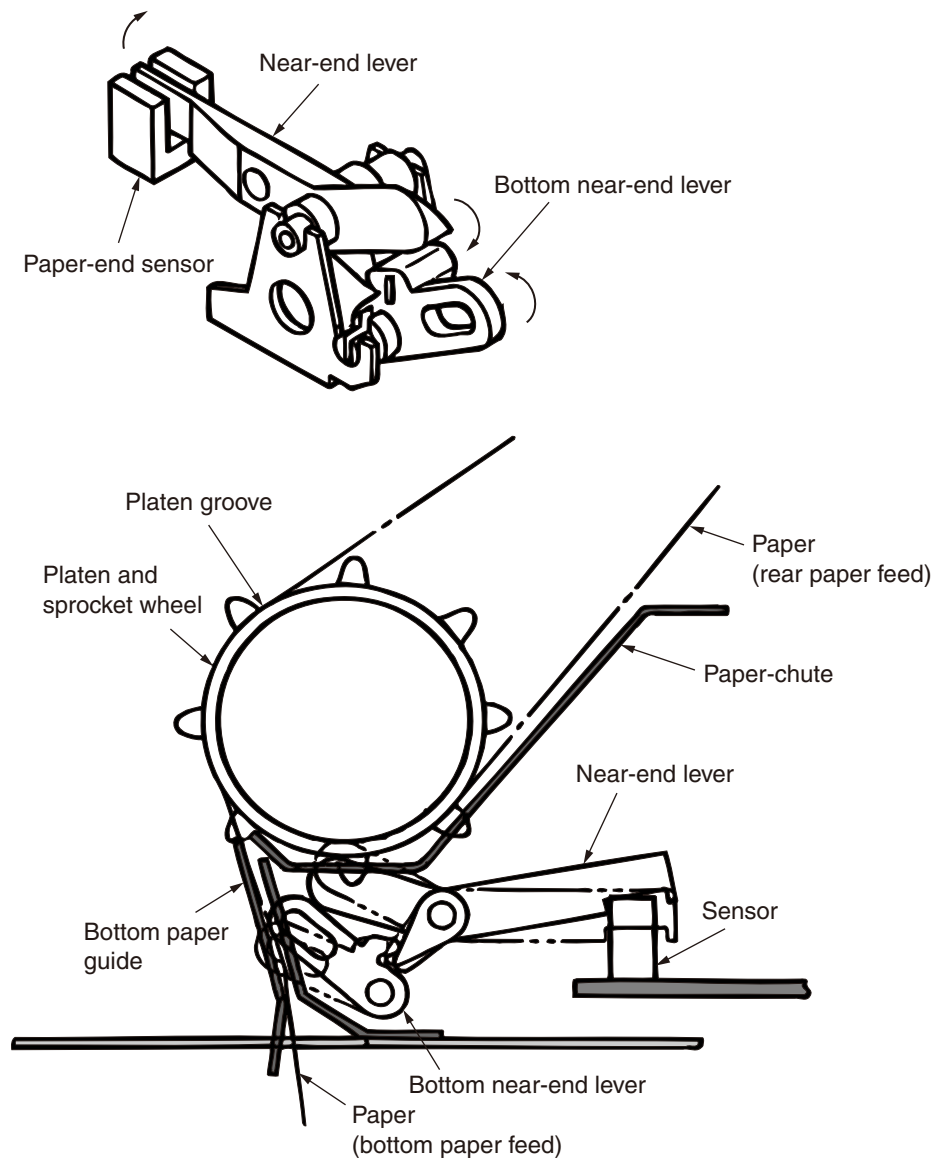

Figure 9
2.2.6 Paper -End Detection Mechanism (see figure 9)